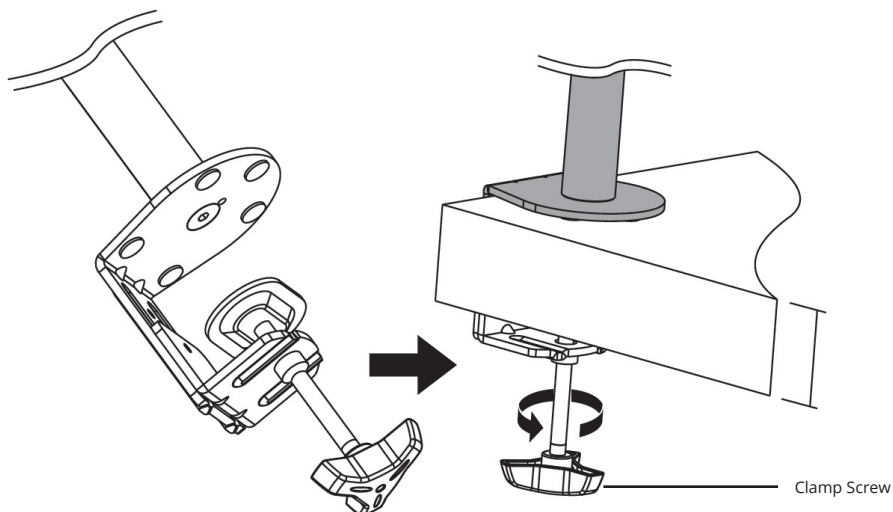

Figure 2
3. Position the C-Clamp to the desktop. Loosen the Clamp Screw according to the thickness of the desktop. Tighten the C-Clamp to the desktop by turning the Clamp Screw clockwise until tight, see **Figure 2**.